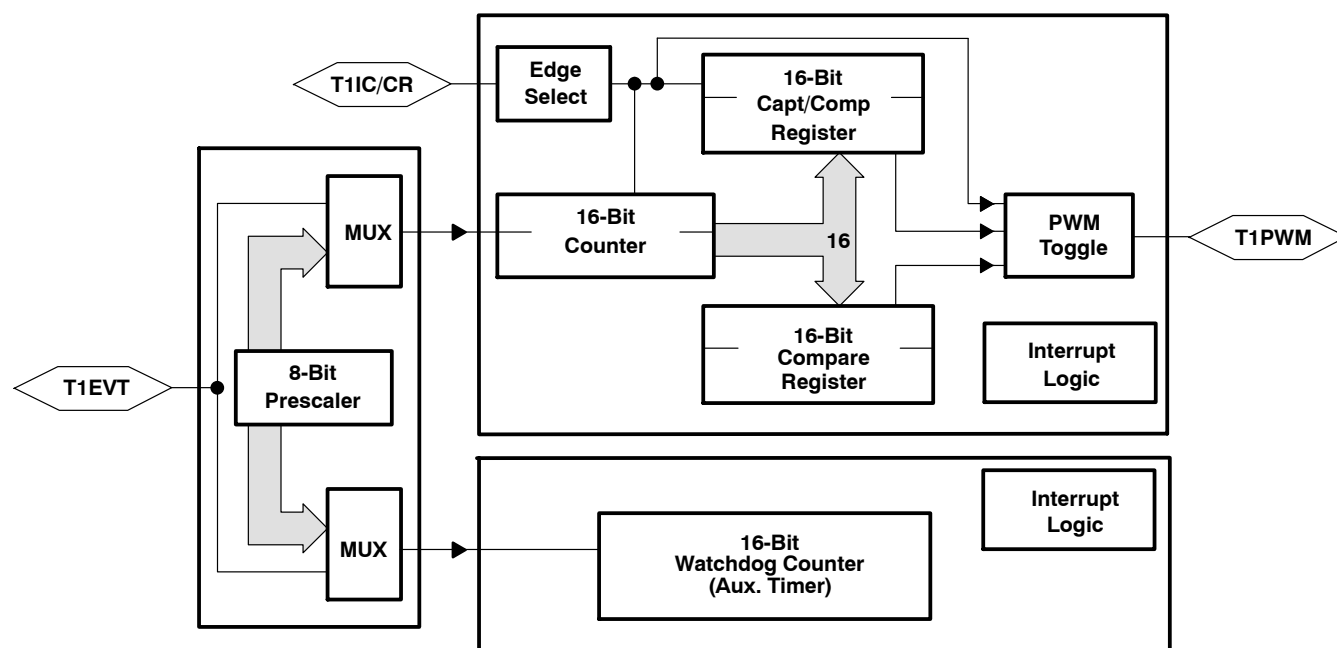

Figure 6. Timer 1 Block Diagram
The programmable Timer 1 (T1) module of the TMS370Cx8x provides the designer with the enhanced timer resources required to perform real-time system control. The T1 module contains the general-purpose timer and the watchdog (WD) timer. The two independent 16-bit timers, T1 and WD timer, allow program selection of input clock sources (real-time, external event, or pulse accumulate) with multiple 16-bit registers (input capture and compare) for special timer function control. The Timer 1 module includes three external device pins that can be used for multiple counter functions (operation-mode dependent), or used as general-purpose I/O pins. The T1 module block diagram is shown in Figure 6.